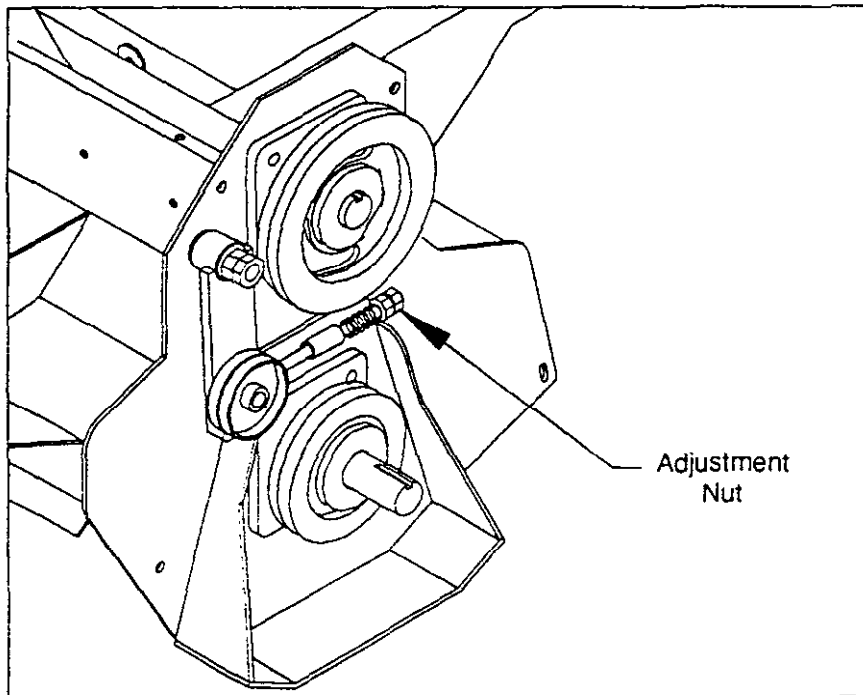

Figure 7
15. Using the adjustment nut on the spring rod, set the tension of the belt. (See Fig. 7).
### ADJUSTING BELT DRIVE (Fig. 7)